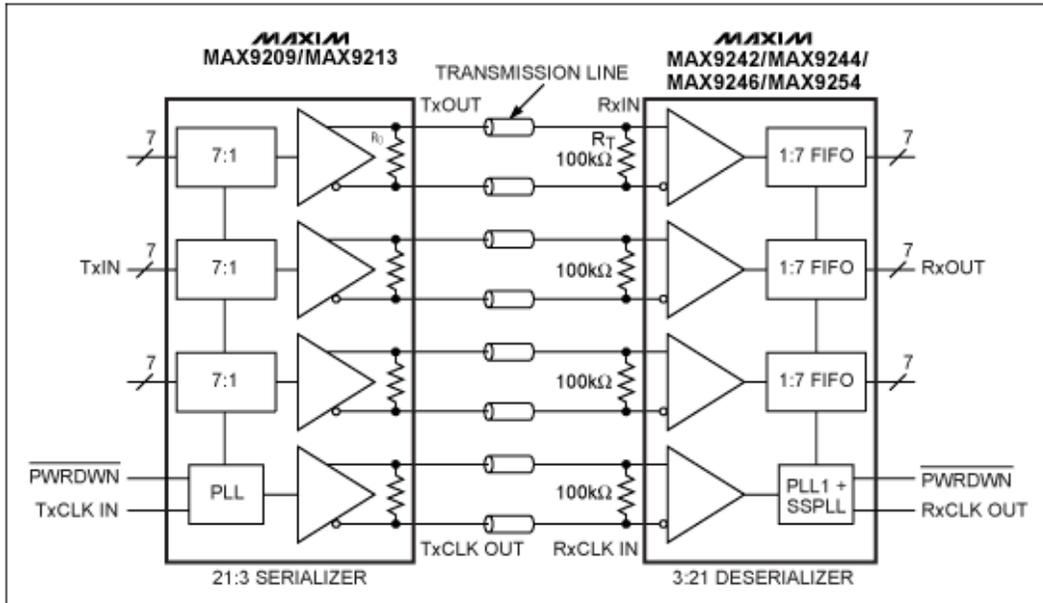
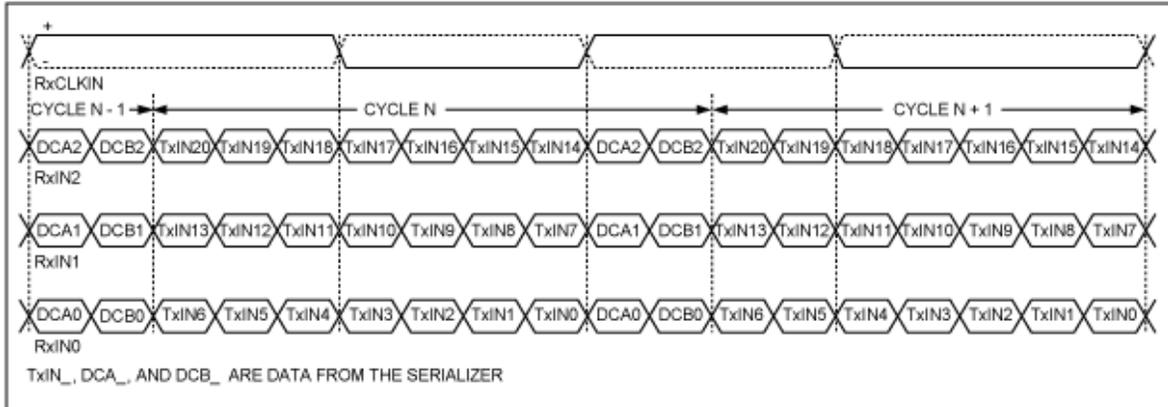

Figure 1. The AC-coupled configuration of the MAX9242/44/46/54 deserializer in DC-balanced mode.
Figure 2. The timing relationship between the clock and data of the deserializer serial input in DC-balanced mode.
1. Configure the serializer in DC-balanced mode. **Figure 1** shows the AC-coupled configuration, and **Figure 2** depicts the timing relationship between the clock and data.